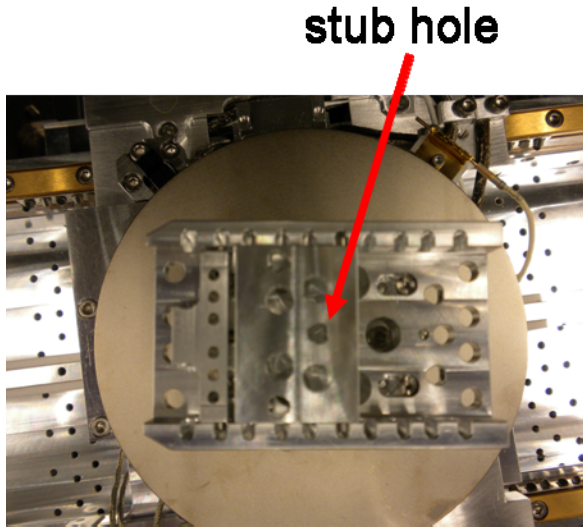
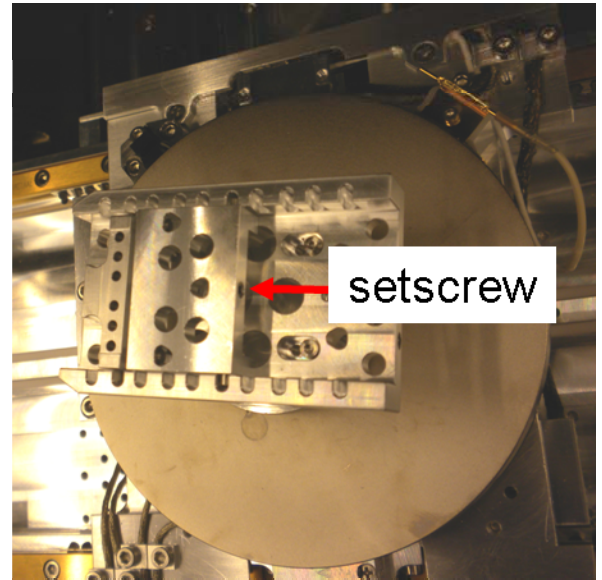

Figure 1. Top view of stub holder.
Figure 2. Angle view of stub holder.
- 3) In microscope server window, hit "Start UI" to start user interface (UI); then log on using your username and password.
- Figures 1 and 2 show the stub holder mounted on the Helios stage. It has a piece with three holes for stubs. Only use the hole shown in Figure 1. This hole has a corresponding setscrew to hold the stub (see Figure 2).